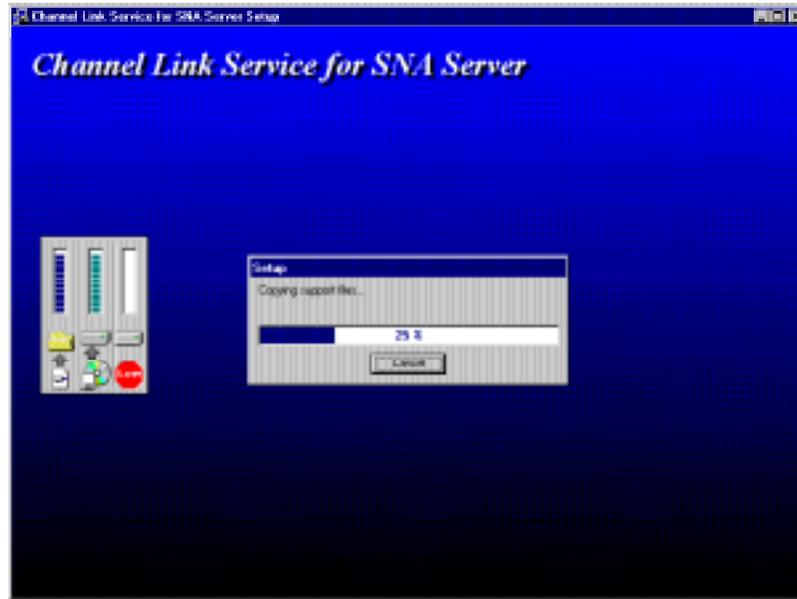

Figure 8-4. Installation Progress Bars
3. Progress bars will display to show installation progress (Figure 8-4).